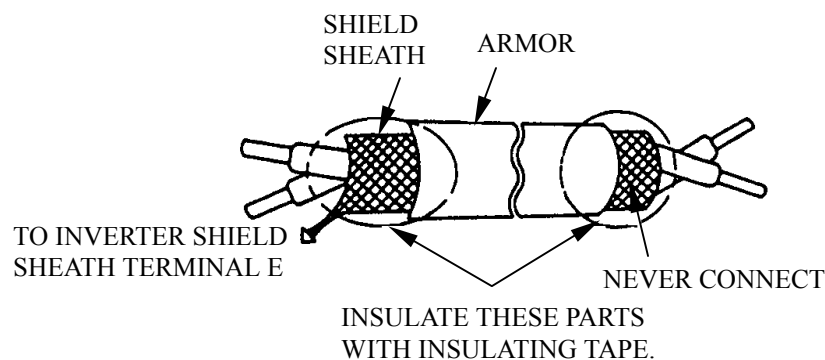

Fig. 4 Shielded Wire Termination
- (1) Separation of control circuit leads and main circuit leads: All signal leads must be separated from main circuit leads L1 (R), L2 (S), L3 (T), \oplus , \ominus , B2, T1 (U), T2 (V), T3 (W) and other power cables to prevent erroneous operation caused by noise interference.
- (2) Control circuit leads R1A-R1B-R1C, R2A-R2C, R3A-R3C (contact output) must be separated from leads 1 to 8, A01, A02, D01-DCOM and 24V, SC, 24VG, VIN, AIN, AUX, MT, GND.
- (3) Use twisted shielded or twisted pair shielded wire for the control circuit line and connect the shield sheath to the inverter terminal E to prevent malfunction caused by noise. See Fig.4. Wiring distance should be less than 164ft (50m).